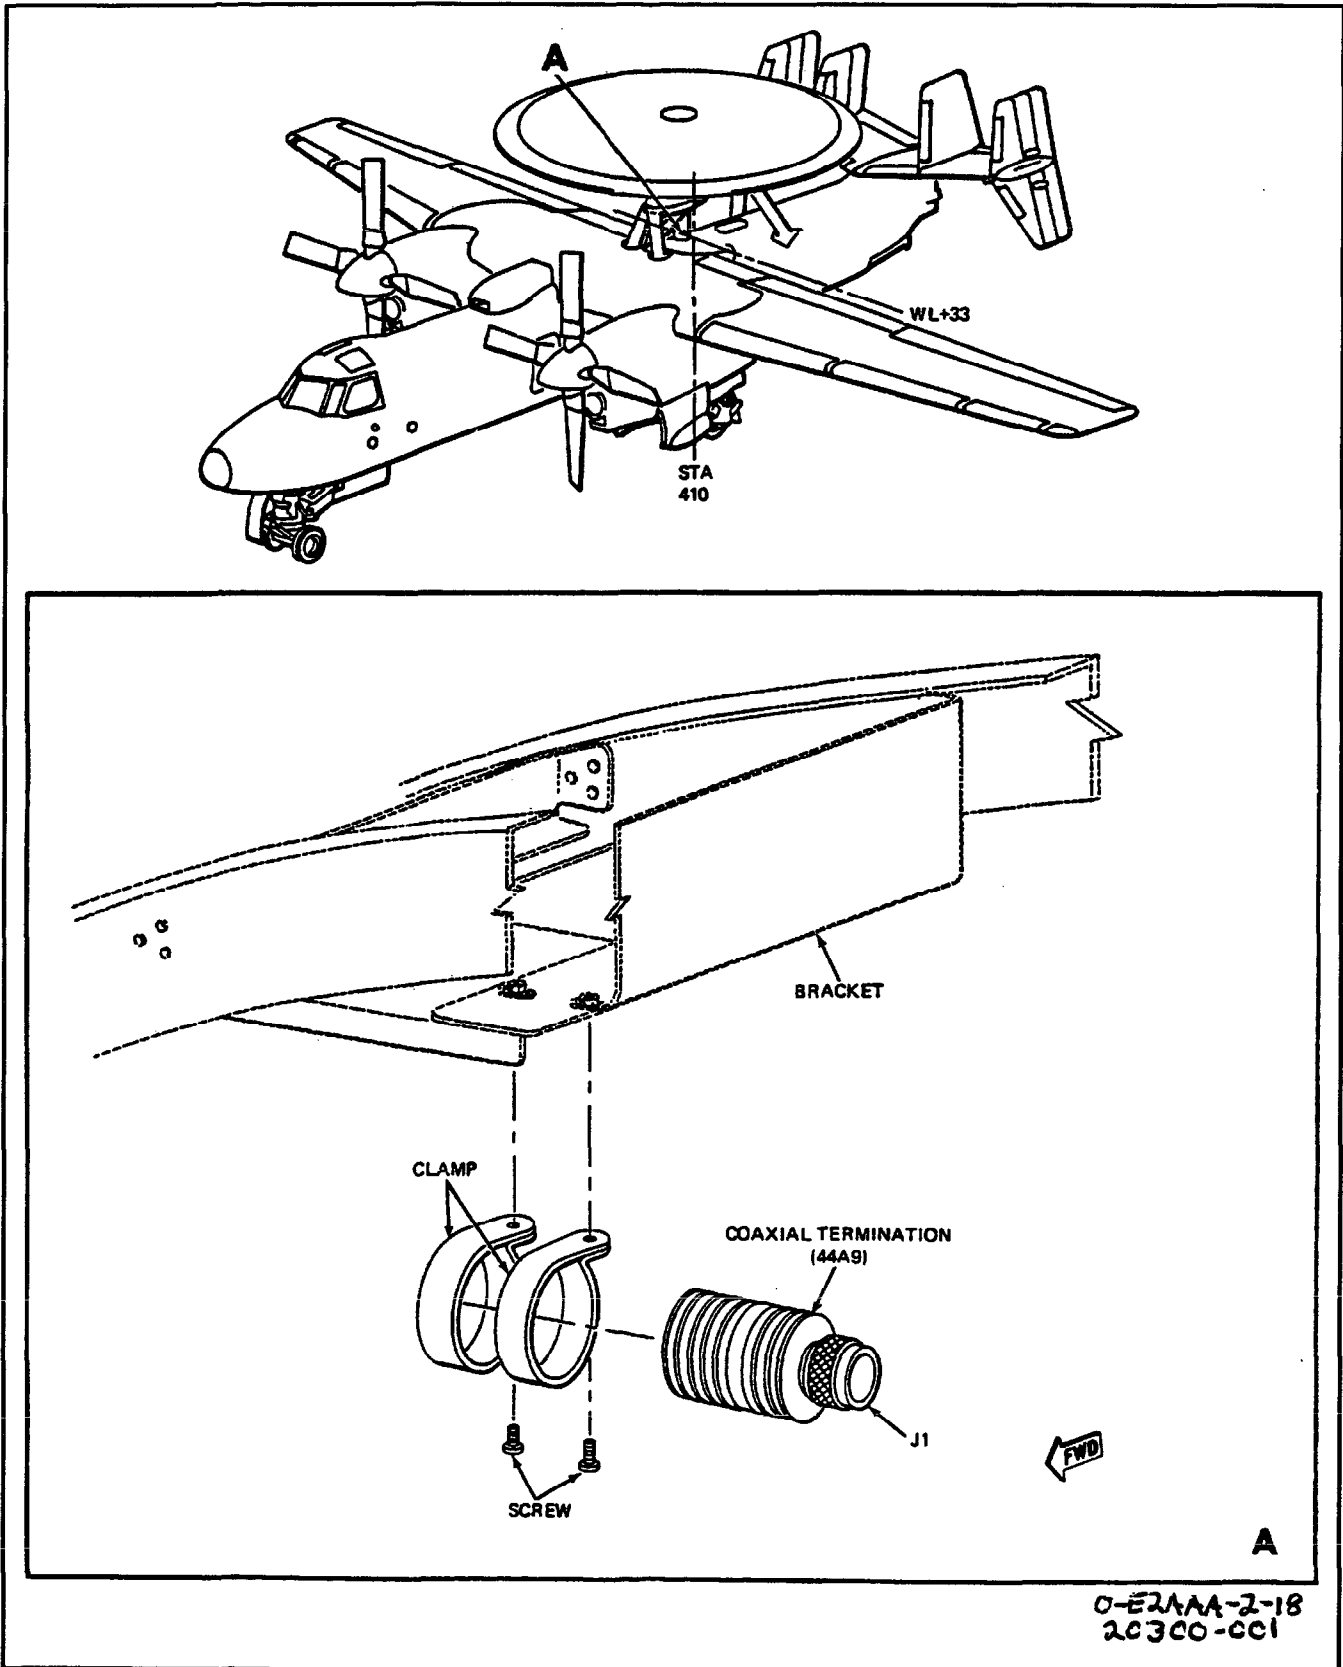

Figure 1. Removal and Installation of Coaxial Termination
2. The Coaxial Termination (hereinafter referred to as the termination) (44A9) is part of the IFF Interrogator RT-988/A. The termination is in the crew compartment, left side, on the ceiling (see figure 1).
3. REMOVAL. (See figure 1.)
**4. INSTALLATION.** (See figure 1.)